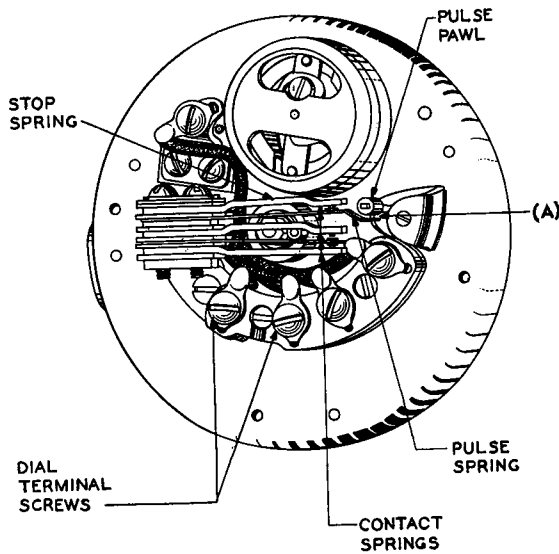

Fig. 2 - 2- and 4-Type Dials
2.05 Straightness of Contact Springs: Fig. 2,
(a) *Dials Equipped With Pulse Springs Having Offset at Outer End:* Fig. 2(A) — The pulse pawl shall strike the flat portion of the pulse spring and not the angular offset.
(b) *2- and 4-Type Dials:* Fig. 2(A) — The clearance between the pulse pawl and the pulse spring when the dial is at rest shall be